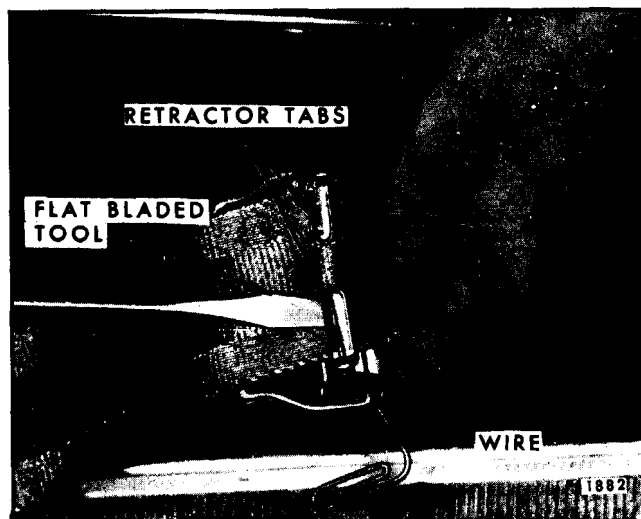

Fig. 14-96-Removal of Bail Type Retractor From Lap Belt
2. Insert a piece of stiff wire such as a paper clip in slot in roller drum to maintain spring tension of retractor (see Fig. 14-96).
3. Using a flat-bladed tool pry open tabs that secure belt webbing on drum and remove retractor from belt (see Fig. 14-96).